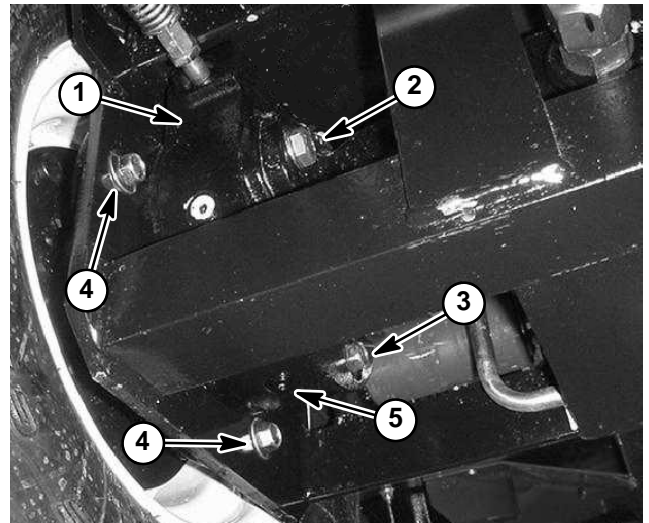

Figure 8
8. Make sure drain plug is installed in bottom of brake assembly (Fig. 8). Fill planetary wheel drive/brake assembly with SAE 85W-140 gear lube. Capacity is approximately 16 fl. oz. (0.47 l) per wheel.